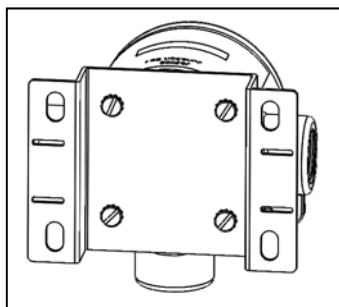

Figure 1 JB5000 Assembly
- (1) **JB5000:** If using JB5000 Junction Box, assemble the JB5000 housing to the JB5000 bracket, as shown in Figure 1.